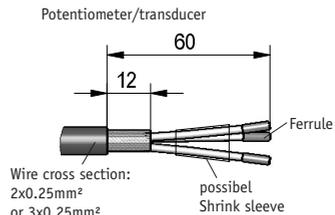

Fig. 8: Cable preparing
- Prepare wire accord. to fig. 8.